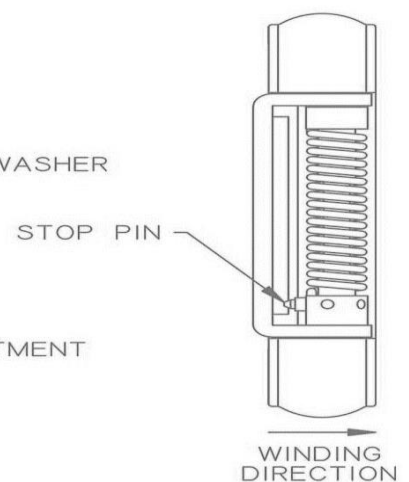

Figure 3
4) Using the Adjustment Pin, turn the Adjustment Collar until the Pin contacts the Hinge. Then insert the Stop Pin in hole of Adjustment Collar (Fig. 3). **CAUTION:** The Stop Pin must fully seat on Adjustment Collar. Failure to do so may cause the Stop Pin to become dislodged. Inserting the Adjustment Pin more than halfway thru the Adjustment Collar can cause partial push out of the Stop Pin. Repeat adjustment until desired tension is reached. The maximum tension is 6 holes or approximately 1-1/4 turns.